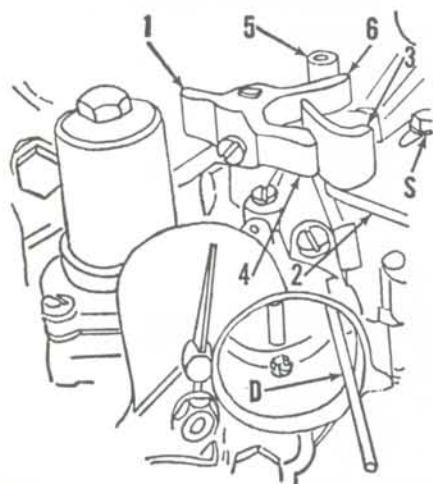

Fig. M7-11—Forward throttle control mechanism used on late models. Refer to text for method of adjustment.
Merc 600, 700 and 800 Direct Reversing: First make certain that distributor is properly timed and adjusted. To synchronize the forward throttle refer to Fig. M7-11. With the engine not running, move the speed control lever until distributor pilot just touches the maximum advance stop screw. Loosen the screws (S) attaching pickup plate (2) to the sector gear and move the plate until the nylon covered pickup pin (5) is not touching the cluster finger (6); then bend pickup tab (3) in or out until a No. 48 twist drill (0.076 gage) can just be inserted between port side of throttle valve and carburetor barrel as shown at (D). Remove the drill or gage. Move the speed control lever to retard the ignition until spark occurs at 0.030 (inches) before TDC of piston.
With intermediate timing position determined, move pickup plate (2—Fig. M7-11) until tab (3) just touches the cluster finger (4) and tighten the attaching screws. Again move the speed control lever until distributor pilot just touches the maximum advance stop screw; then bend the nylon covered pickup pin (5) until 0.000-0.015 clearance exists between pickup finger (5) and cluster finger (6).